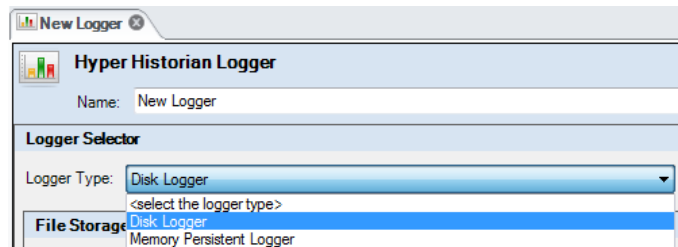

Figure L2.7 - Logger Configuration
- Once the new logger opens, select **Disk Logger** from the **Logger Type** drop-down list, as shown in Figure L2.7.